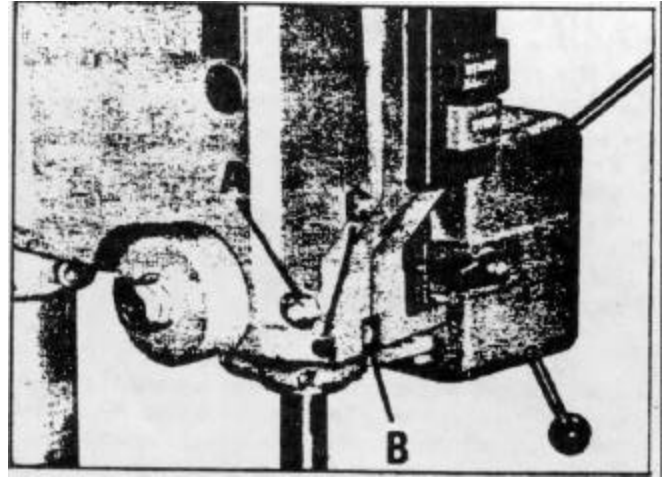

Fig. 8
The quill can be locked at any desired point in its travel by tightening the quill locking nut (A) Fig. 8. This is an especially desirable feature for set-up of tooling for production type operations. After considerable use, Play might develop between the quill and the head casting. This play can be eliminated by loosening quill locking nut (A) and lock nut (B) Fig. 8. The screw (C) can then be turned clockwise which will draw the sprit halves of the head casting together to compensate for wear. When the final adjustment is accomplished tighten lock nut (B), Fig. 8.